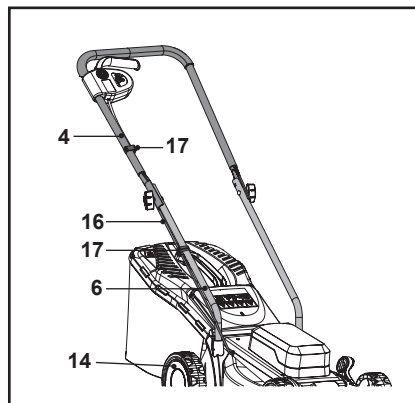

Fig. 3
5. Attach the control cord (16) with the two cord clips (17) on the right-hand side of the upper handle bar (4) and the lower handle bar (6) (when viewed from operator's position) (Fig. 3).
6. Check the condition of control cord (16) and keep it away from the rear wheel (14).